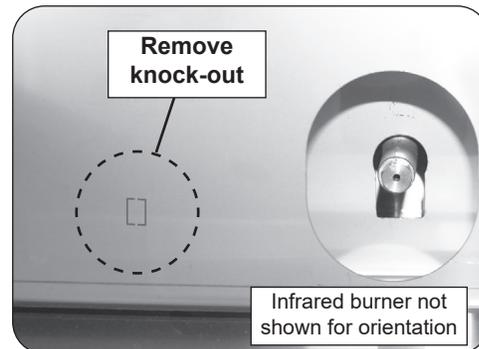

Fig. 4-1 Remove knock-out (forward firewall)
1. Carefully remove the knock-out located in the forward firewall (see Fig. 4-1).